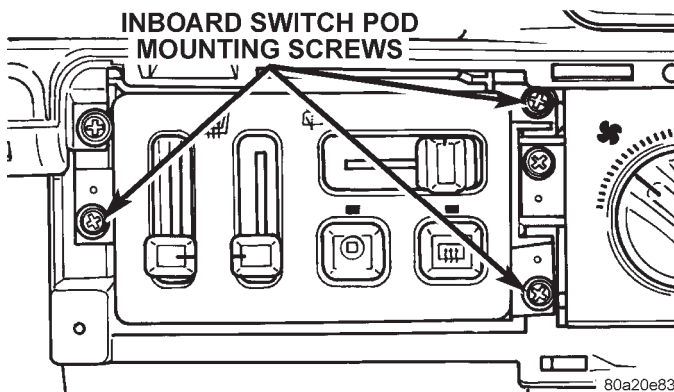

Fig. 4 Inboard Switch Pod Remove/Install
(1) Disconnect and isolate the battery negative cable.
(2) Using a trim stick or another suitable wide flat-bladed tool, pry gently around the perimeter edges of the inboard switch pod bezel to release the snap clip retainers. Remove the bezel from the instrument panel.
(3) Remove the three screws that secure the inboard switch pod to the instrument panel (Fig. 4).